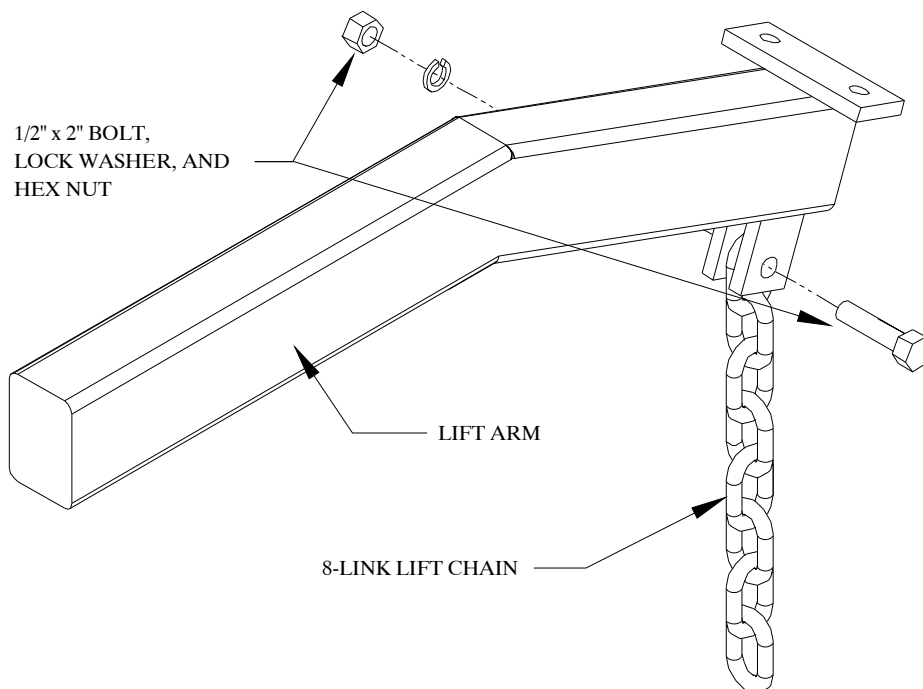

Figure 12
4. Bolt an 8-link lift chain between the chain tabs at the rear end of each lift arm. Refer to Figure 12. This chain will go down and connect to the last bar of a 4 or 8-bar harrow section or to the connector link for 16-bar sections.